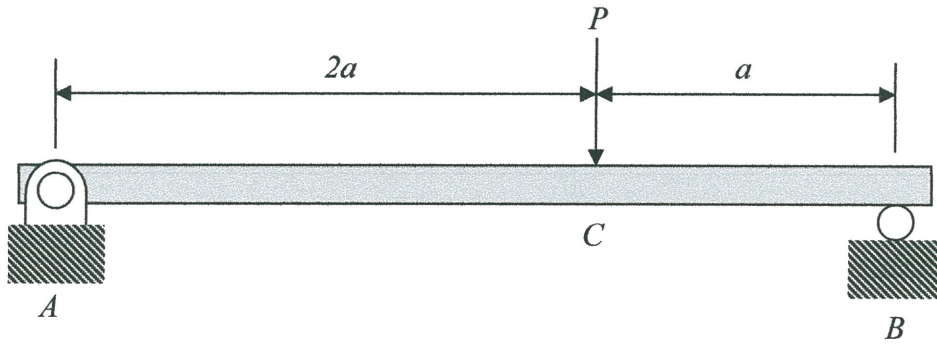

FIGURE Q4
- (c) A simply supported beam shown in **FIGURE Q4** is subjected to a concentrated load, P at a point C . It is interested to find the slope at point C by using Castigliano's theorem.